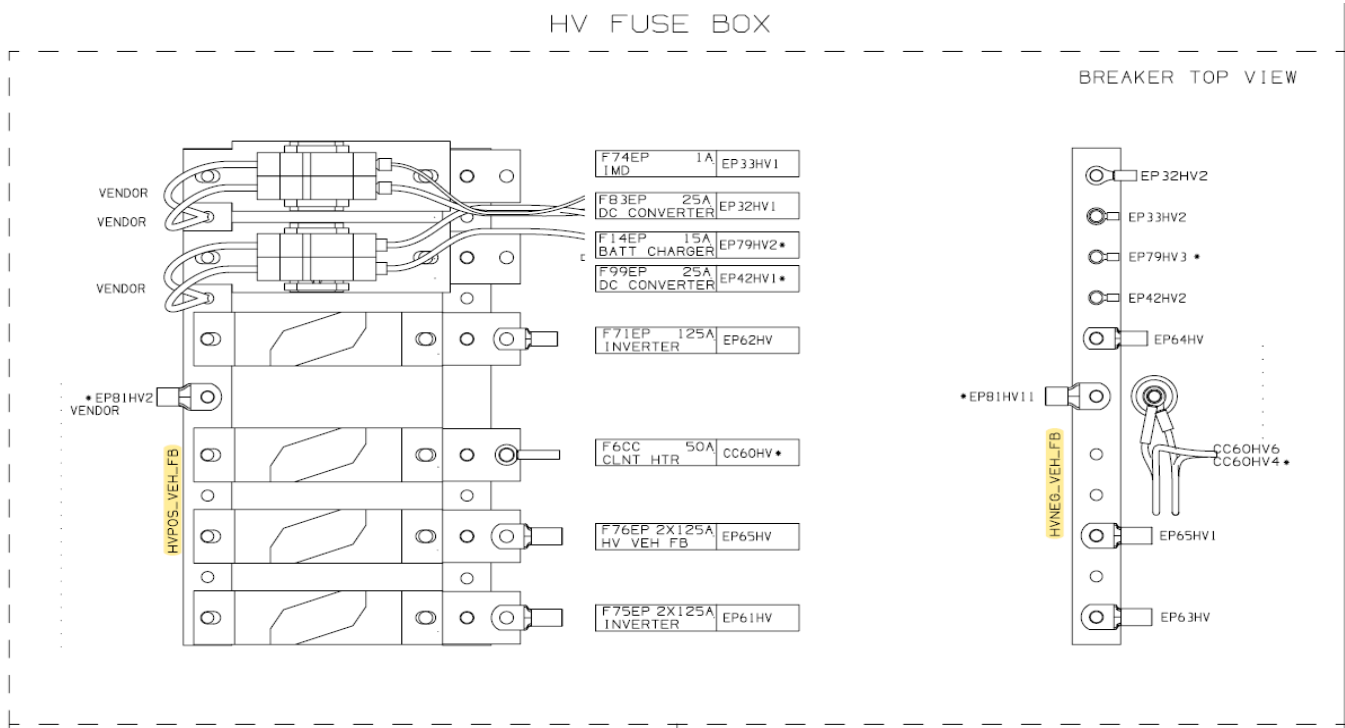

Figure 1: High Voltage Fuse Box Layout
6. Wearing proper PPE and using an appropriate voltmeter as per appendix A, confirm that no voltage is present between HVPOS_VEH_FB & HVNEG_VEH_FB before proceeding. These connections are located inside the HV Fuse box inside the inverter rack as seen in Figure 1. Please see Figure 1 below for an example of a High Voltage Fuse Box Layout with HVPOS_VEH_FB & HVNEG_VEH_FB highlighted.